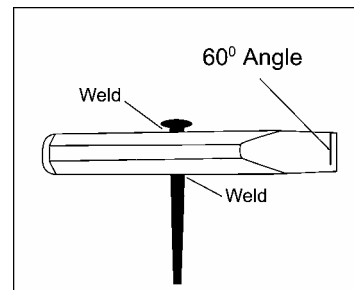

Figure 4.4
6. Grind a  $60^\circ$  angle on the chipping end of the hammer, as shown in Figure 4.4.
7. Insert the  $\frac{3}{8}$ " round rod in the hole in the 1" rod and weld it where it enters and exits the larger rod, as shown in Figure 4.4.